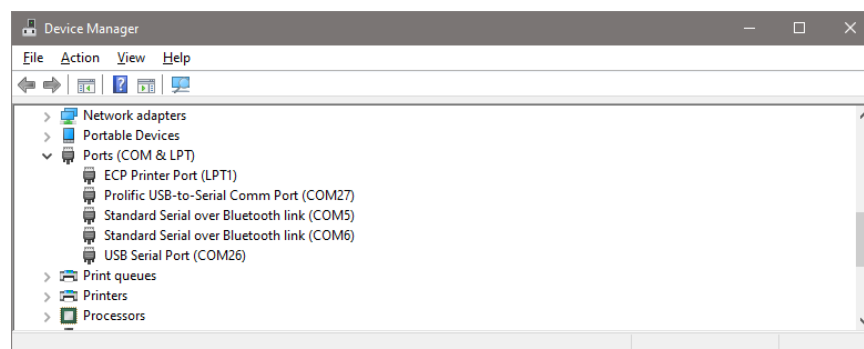
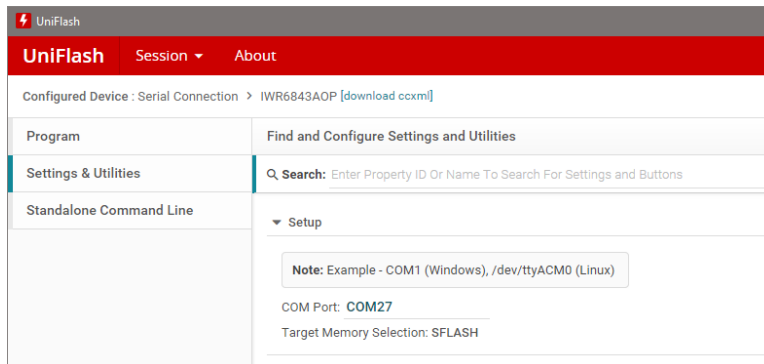

Figure 23. Windows Device Manager
Figure 24. Uniflash COM Port Selection
8. Identify the COM port using Windows Device Manager. Use the COM port number for the Prolific USB-to-Serial adapter as identified in the Windows Device Manager (Figure 23). Enter this COM port number in the Uniflash COM Port selection (Figure 24).